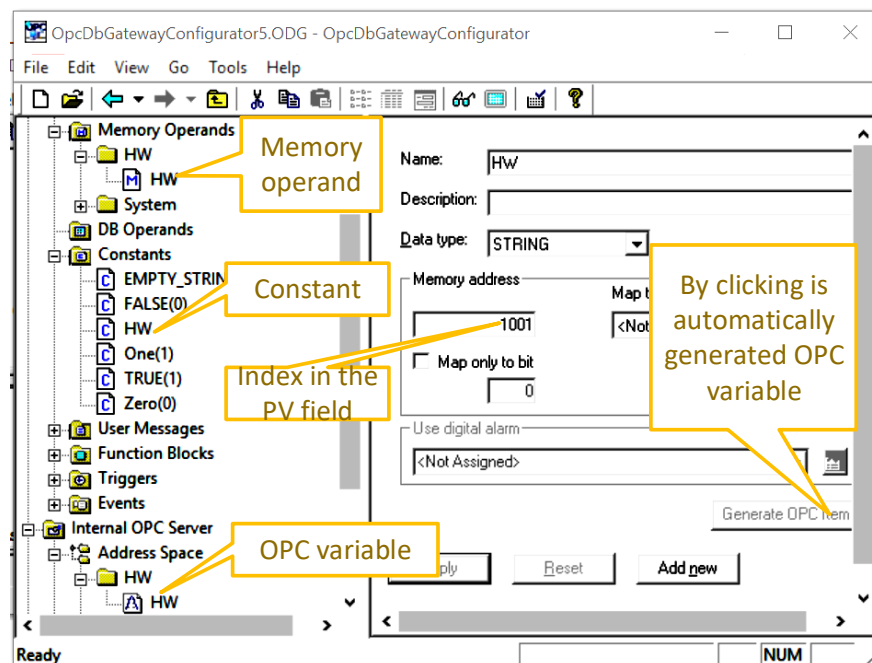

Figure 2 Location of memory operands, constants and OPC variables of the internal OPC server in the configuration
In typical OpcDbGateway applications, data from external devices and applications communicating with the runtime OpcDbGateway application are stored in the PVs. The PVs are stored in an array of structures in the runtime application's memory (which include, in addition to value, also type, timestamp, and quality) and made available through indexes of this array (Figure 2).
2. Define a string constant named HW containing string "Hello World" (Figure 2).
3. Create a MO in a new directory called HW. MO is mapped to OPC variable with the same name and in the directory of the internal OPC server address space (Figure 2)